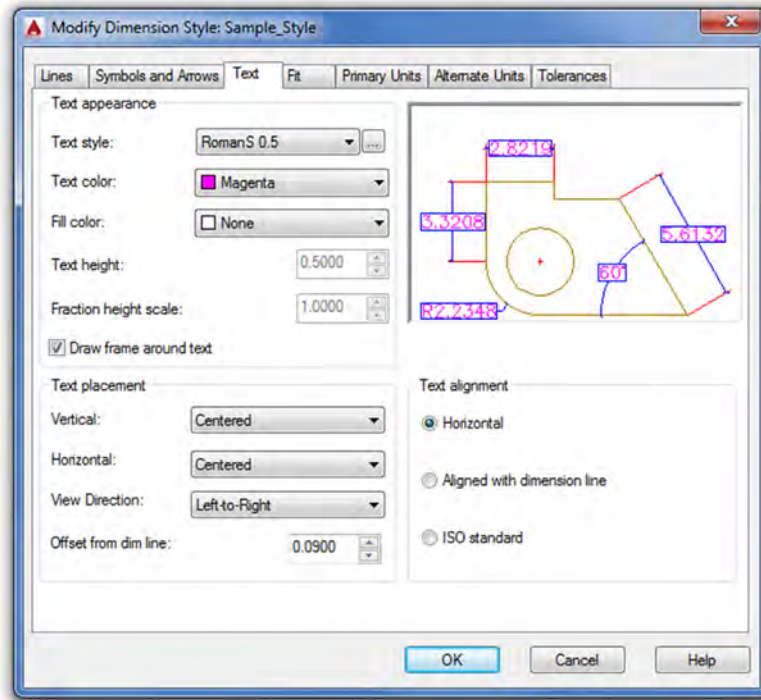

FIGURE 13.4
- **Text color:** Usually not set separately and remains “By Layer.” Here, for practice, we set it to the color Magenta, as seen in Figure 13.4.
The Text placement category (bottom left) allows you to position the dimension value in every conceivable way near the rest of the dimension. You can place the values above, below, or centered on the dimension line. You can also move the values around the extension line, lining them up. Experiment with all the possible settings, observing the results in the preview window to the upper right. The default setting for both Vertical and Horizontal is Centered, as seen in Figure 13.4. View Direction: flips the values around, and Offset from dim line: is best left alone and is adjusted as part of the overall scale settings.
With Text alignment (bottom right), the common default is Horizontal, because people generally do not want to tilt their heads to the side every time they check a dimension on a printout. Do try the other two options (aligned and ISO) to see what they do, though. Your Dimension Style dialog box should look like Figure 13.4.